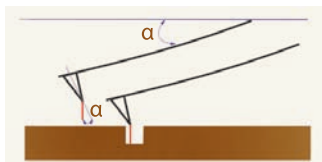

Fig. 2. Any angle of inclination a you need to match your AFM holder specification can be produced. Just specify the angle of inclination you want
The results of AFM investigation of living cells line L41 by using the colloidal probes are shown in Figure 2. According to these data, the values of the living cell compliance (inverse stiffness) along the line marked in the AFM image are almost independent on the vertical dimensions of the cell. The values of compliances were determined as a steepness of deformation from load curves measured during indentation. Detecting constant level of the compliance was related with the fact that the maximum indentation depth did not exceed the radius of curvature of the probe and was almost an order of magnitude smaller than the height of the cell. I.e. the relatively thin surface layer of the living cell is responding to the indentation. Calculation of elastic modulus for that surface layer gave the averaged value of 21 ± 3 kPa.
Figure 2. Investigation of living cell lymphoblastoid line L41. The optical image of the colony of cells in a Petri dish is shown in the left. In the center there is a tapping mode AFM image of the cells (gradient filter was applied for image processing). Scanning parameters: liquid cell, the colloidal probes with 650 nm SiO₂ granule, the cantilever stiffness 0.4 N/m, resonance frequency of 16.3 kHz (in an air - 55.5 kHz), quality factor ≈ 3 (in accordance with the width of the thermal peak); a free and working amplitude is 22 nm and 14 nm, respectively. The compliance profile (the inverse of rigidity) and the height profile of the cell, measured along the line marked on the AFM image, are placed in the right of the Figure. Cell line L41 was cultivated at the laboratory of evolutionary variability of influenza viruses, Research Institute of Influenza, St. Petersburg
- To profile a shape of sidewalls. Due to a variable angle of inclination (see Fig. 2), no more mechanical restriction!